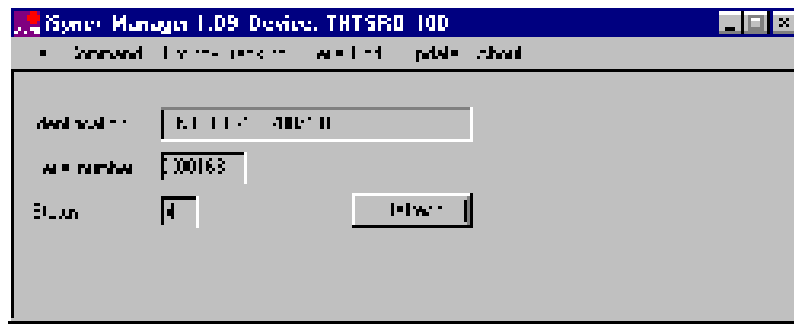

Figure 1: iSyncMgr.exe
- Once the serial port number is properly working, click on the “Refresh” button. The Identification, Serial Number and Status of the smart SRO rubidium clock inside the RbSource-1600-dual should be displayed as Figure 1 below: